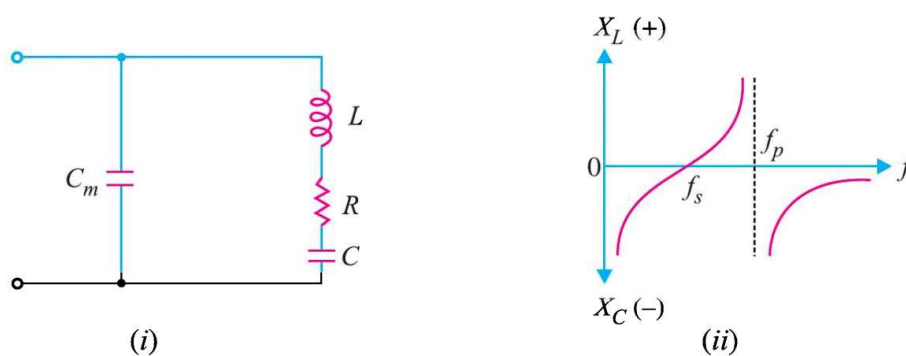

Fig. 14.22
When the crystal is vibrating, its equivalent electrical circuit is as shown in Fig. 14.22 (i). The capacitance values of  $C$  and  $C_m$  are relatively low (less than 1 pF for  $C$  and 4–40 pF for  $C_m$ ). Note that the value of  $C$  is much lower than that of  $C_m$ .
- (i) At low frequencies, the impedance of the crystal is controlled by extremely high values of  $X_{C_m}$  and  $X_C$ . In other words, at low frequencies, the impedance of the network is high and capacitive as shown in Fig. 14.22 (ii).